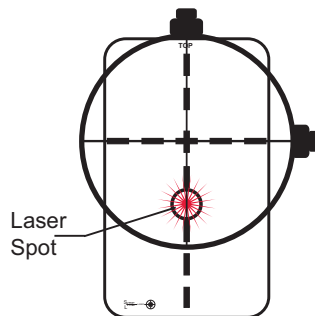

Fig. 1
4. Set the scope at low power and switch on the boresighter. Adjust the position of the firearm to center the laser within the "Laser Target" located below the dotted line crosshair on the target (See Fig. 1.)
5. Insure that the firearm does not move and that the laser remain centered in the target while making adjustments. Adjust the scope crosshairs or other type sights to align as shown in Fig. 1 & 2